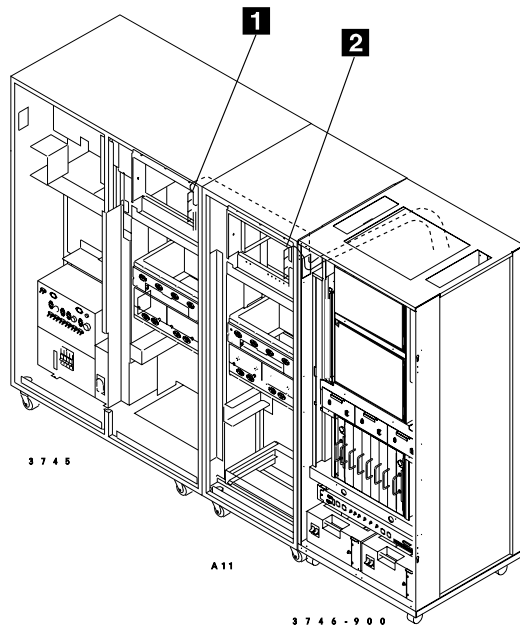
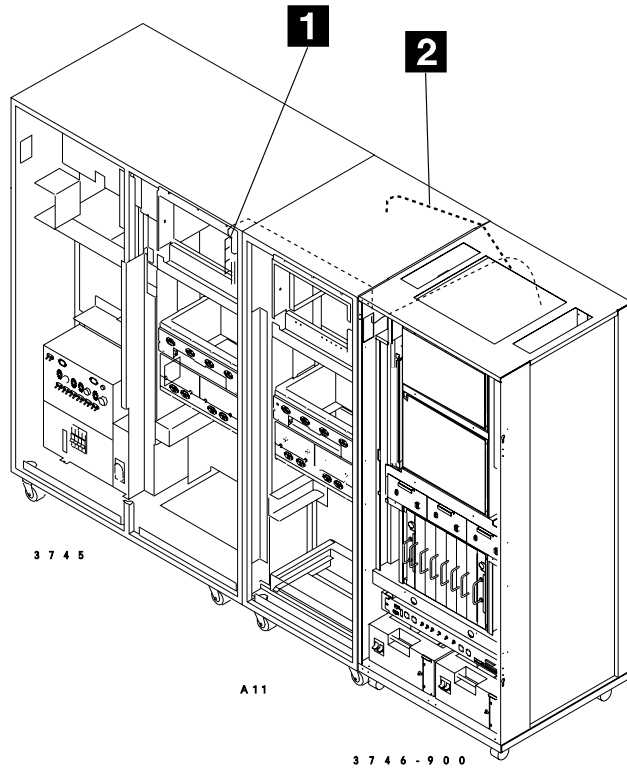
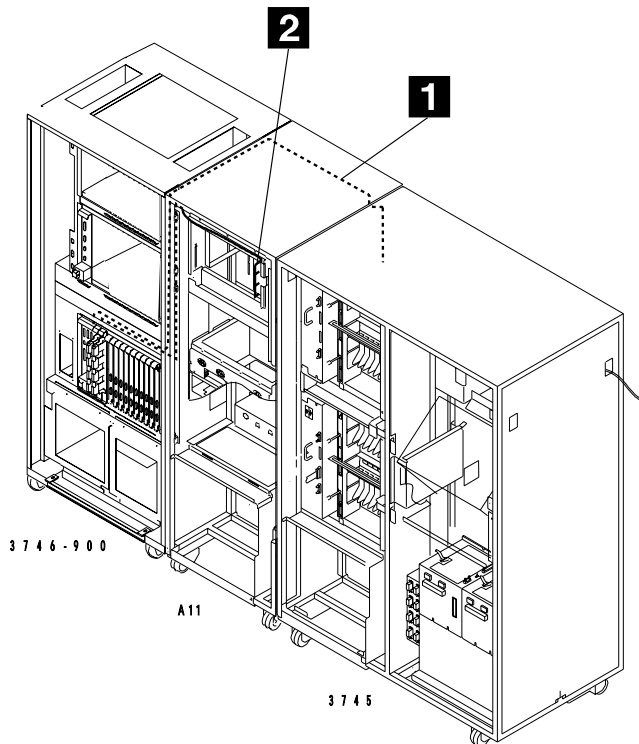

Figure 4-21. Cabling from the 3746-900 to the 3745 and 3746-A11 (IOC to LAB2, DMA to LAB1) (Front View)
Figure 4-22. Cabling from the 3746-900 to the 3745 and 3746-A11 (IOC to LAB3, DMA to LAB1) (Front View)
Figure 4-23. Cabling from the 3746-900 to the 3745 and 3746-A11 (IOC to LAB3, DMA to LAB1) (Rear View)
**Note:** (1) Depending on the configuration, plug the **IOC** cables **2** in the following locations:
- If **LAB 3** is **not installed**, 02A-A1X02, X03, X04, X05 and refer to Figure 4-21 on page 4-23
- If **LAB 3** is **installed**, 02F-A1X02, X03, X04, X05 and refer to Figure 4-22 on page 4-24 and Figure 4-23 on page 4-24
- Step 4. \_\_\_\_ Unroll and route the IOC cables **2** through the upper side windows from the 3746-900 to the rear of the 3746-A11 unit (see Figure 4-23 on page 4-24) or to the front of the 3746-A11 unit if no LAB3 (see Figure 4-21).
- Step 16. \_\_\_\_ Unroll and route these DMA cables through the upper side windows and through the 3746-A11 from the 3746-900 to the 3745 board 01G-A1 (see Figure 4-22 on page 4-24). Fold the DMA cables going to W02, W03, W04 and W05 according to the fold marks on these cables.